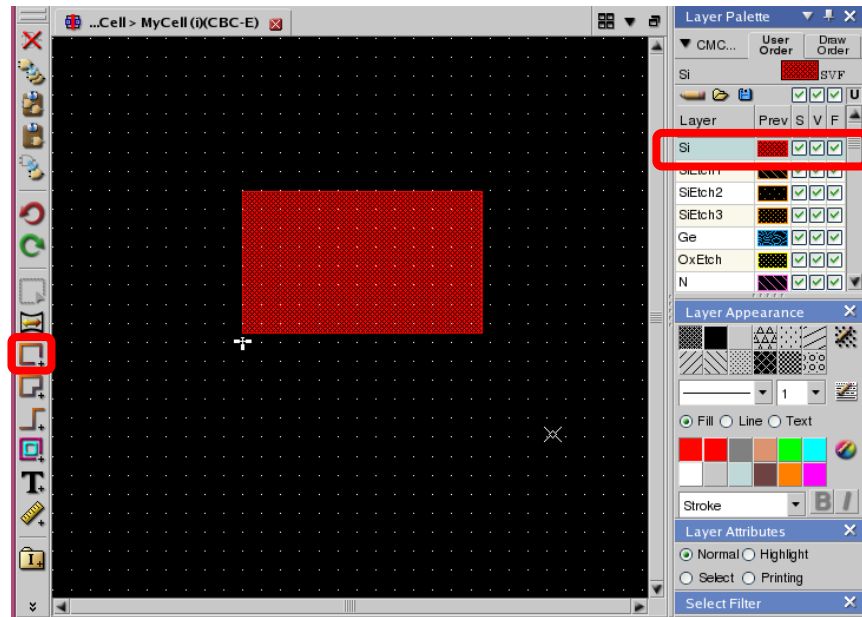

Figure 23: Drawing Rectangular Waveguide
- c. In the center pane drawing space, draw a rectangle (see Figure 23).